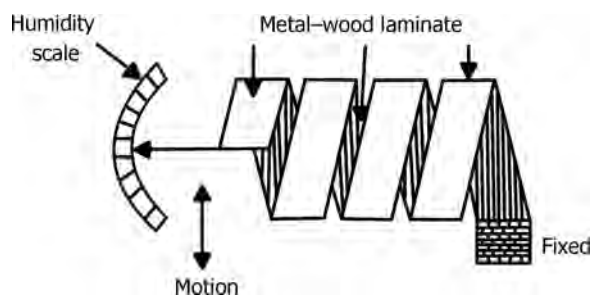

FIGURE 18.12 Hygrometer using metal–wood laminate.
- Laminate hygrometer is made by attaching thin strips of wood to thin metal strips forming a laminate. The laminate is formed into a helix as shown in Figure 18.12.